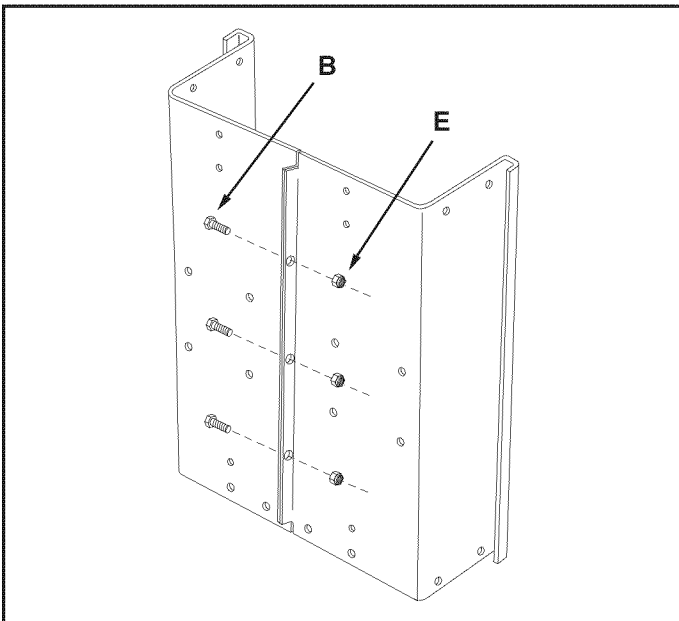

FIGURE 1
- (2) 9/16" Wrenches
STEP 1: (SEE FIGURE 1)